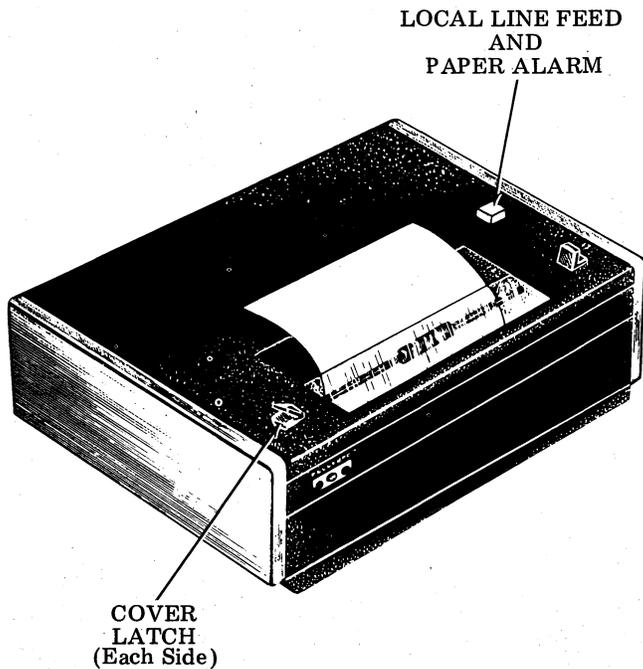

Figure 9 - DATASPEED 40 Printer Package
2.23 The DATASPEED 40 printer (Figure 9) is an electromechanical impact printer which provides hard copy of data stored in the display logic or received on-line. Maximum line length for the basic printer is 80 characters per line, spaced 10 characters per inch horizontally, and 6 lines per inch vertically. A 2-line buffer in the printer logic permits printing of one full line of data while the next line is being accumulated.
2.32 The printer includes a local paper advance button at the right side of the cover (Figure 9). Paper feeds out at slightly less than the line feed rate as long as this button is depressed. This button includes a low-paper alarm indicator. If a low-paper condition occurs (about 10 feet of paper on roll), the indicator lights but printing continues to the end of the message. The Data Terminal Ready lead then turns off, and causes the data set to turn off reverse channel, so no further messages can be received on-line until the paper is replaced. Local printing is also inhibited in the alarm condition. An option is provided in the ROP controller to drop DTR immediately on low paper. This may be required when long messages or multiple messages are received on a single call.